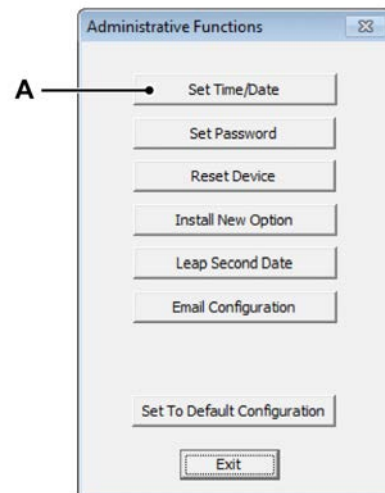

Figure C.64: Administrative Functions - GMR1000
- 9 Edit the date by clicking on the **Set Time/Date** button in the **Administrative Functions** dialog (see Figure C.64).